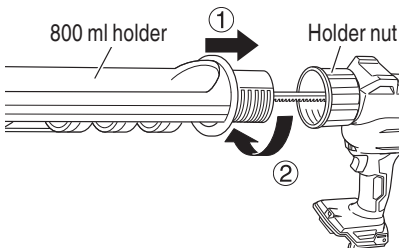

Fig. 16
- (2) Attach the rack handle to the rack with the screw.
- (3) Attach the 800 ml holder by inserting it into the holder nut and turning it in the direction of the arrow until it comes into contact. (Fig. 16)